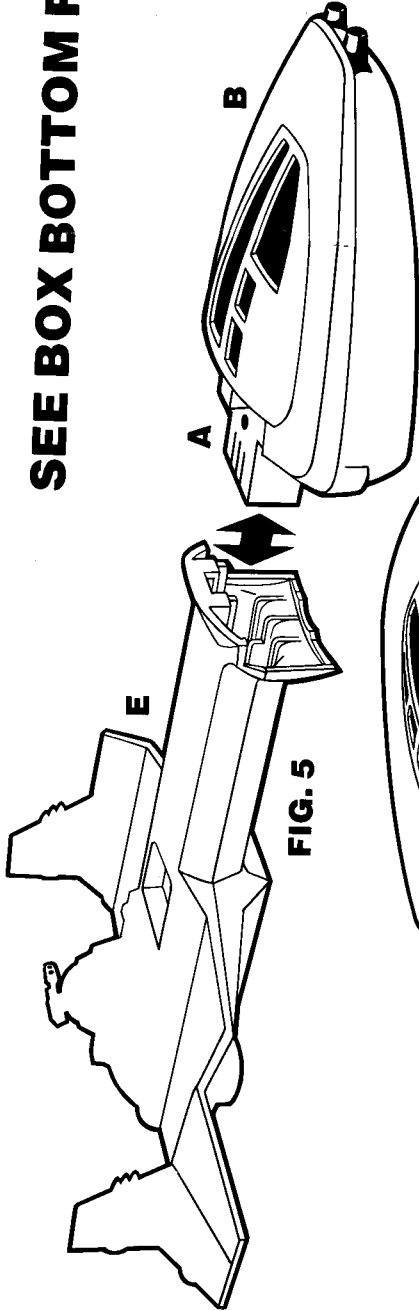

FIG. 5
1. Snap on **Battery Cover (C)** over compartment.
2. Press **Stabilizers (D)** into the **Front Hull (B)**.
3. Slide the **Energy Module (A)** into the **Front Hull (B)**, guiding the red neck of the craft. (See FIG. 5)
4. Slide the front section back onto the neck of the craft. (See FIG. 5)
Slide the front section back onto the neck of the craft. (See FIG. 5)
1. Detach the **Front Hull and Energy Module Assembly (A & B)** from the **Main Body (E)**. (See FIG. 5)